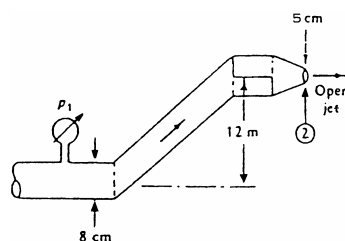

Fig. P3.167
3.167 In Fig. P3.167 the fluid is gasoline at 20°C at a weight flux of 120 N/s. Assuming no losses, estimate the gage pressure at section 1.